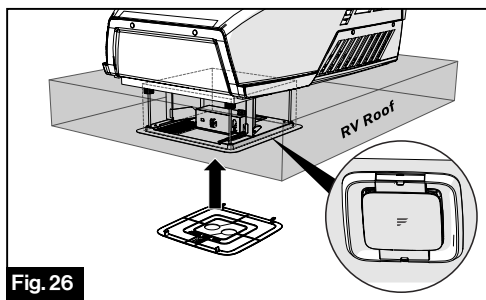

Fig. 26
7. Align the decoration plate tabs with the mating notches on the ADB shroud and push to snap the decoration plate into place. (Fig. 26)